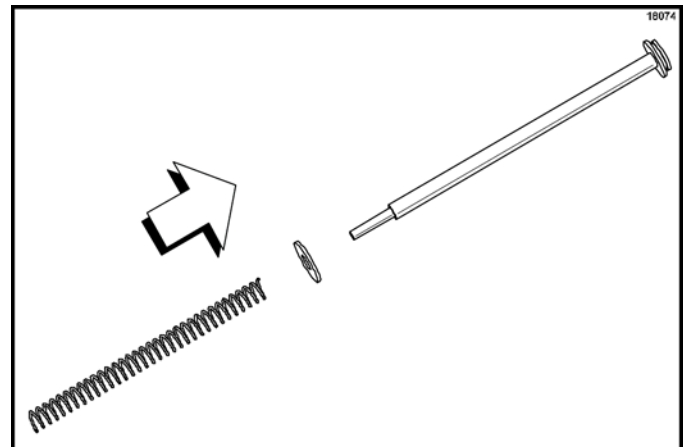

Figure 6-108
3. Install the washer and spring onto the plunger assembly. (See Figure 6-108.)